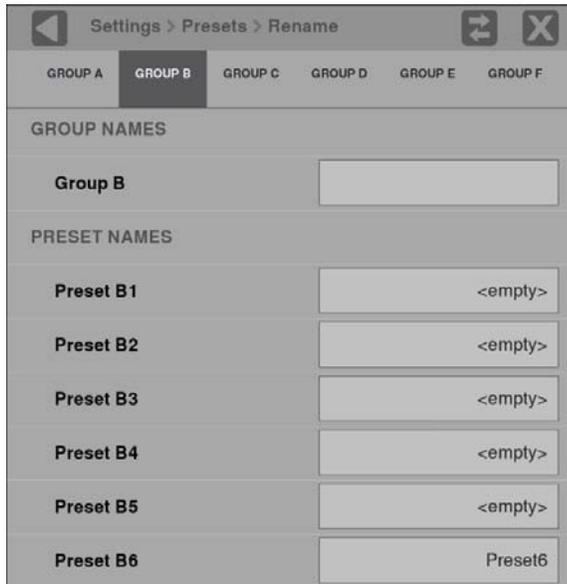

Figure 65: Example of Presets Rename submenu
- c. Select **Rename** to open the Presets Rename submenu shown in Figure 65.